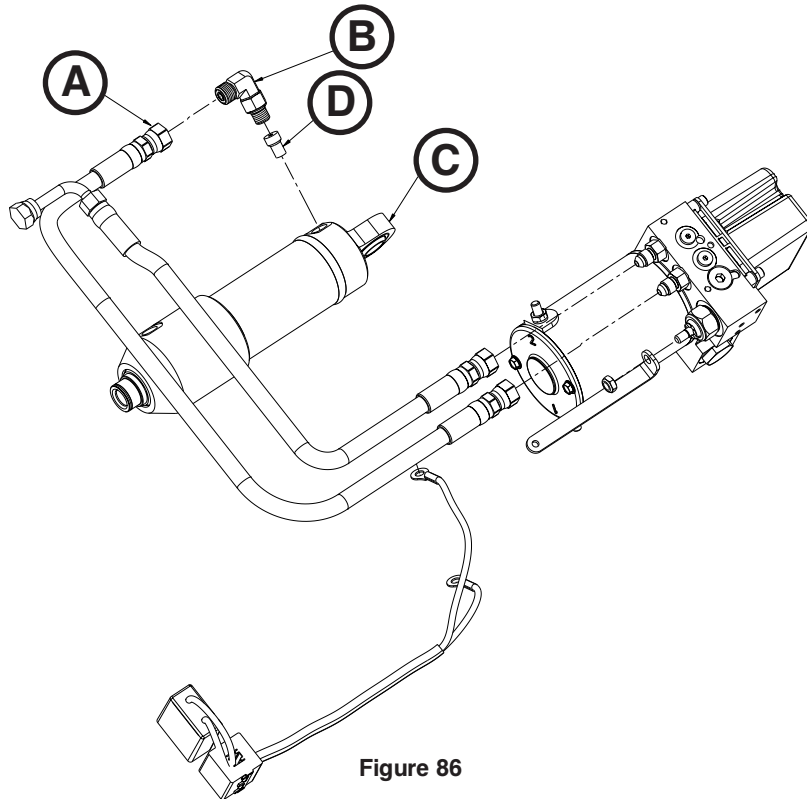

Figure 86
3. Using an 11/16" combination wrench, disconnect the hydraulic hose (A) closest to the mounting bracket at the head end of the trolley (Figure 86).
4. Using a 5/8" combination wrench loosen (do not remove) the jam nut on the cylinder hose fitting (B) and unthread the fitting from the hydraulic cylinder (C) (Figure 86). Save all parts for reinstallation.
5. Using a 1/8" hex wrench remove the velocity fuse (D) from the hydraulic cylinder (C) (Figure 86). Discard the fuse.
**Note:** When reinstalling the cylinder hose fitting (B) lubricate the o-ring with ATF and only thread the fitting in until you feel resistance. When aligning the fitting for proper position, do not back out more the 340 degrees from where resistance was felt. Using a torque wrench, torque the jam nut of the fitting to 190±10 in-lb.